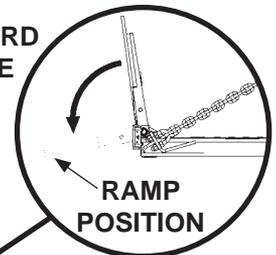

FIG. 23-1B
2. Pull up on lock mechanism and lower retention ramp to the ramp position (**FIG. 23-1B**).